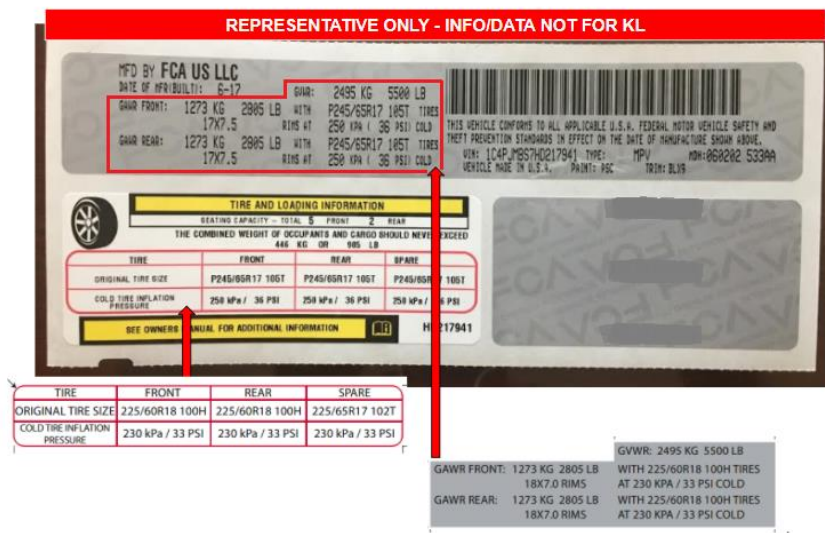

Figure 5 – Decal Overlays
3. Remove the overlay labels from its paper backing and carefully install them over the appropriate portions of the tire placard label (Figure 5). Firmly press and smooth the overlay labels to the surface of the existing tire placard label to ensure good adhesion.